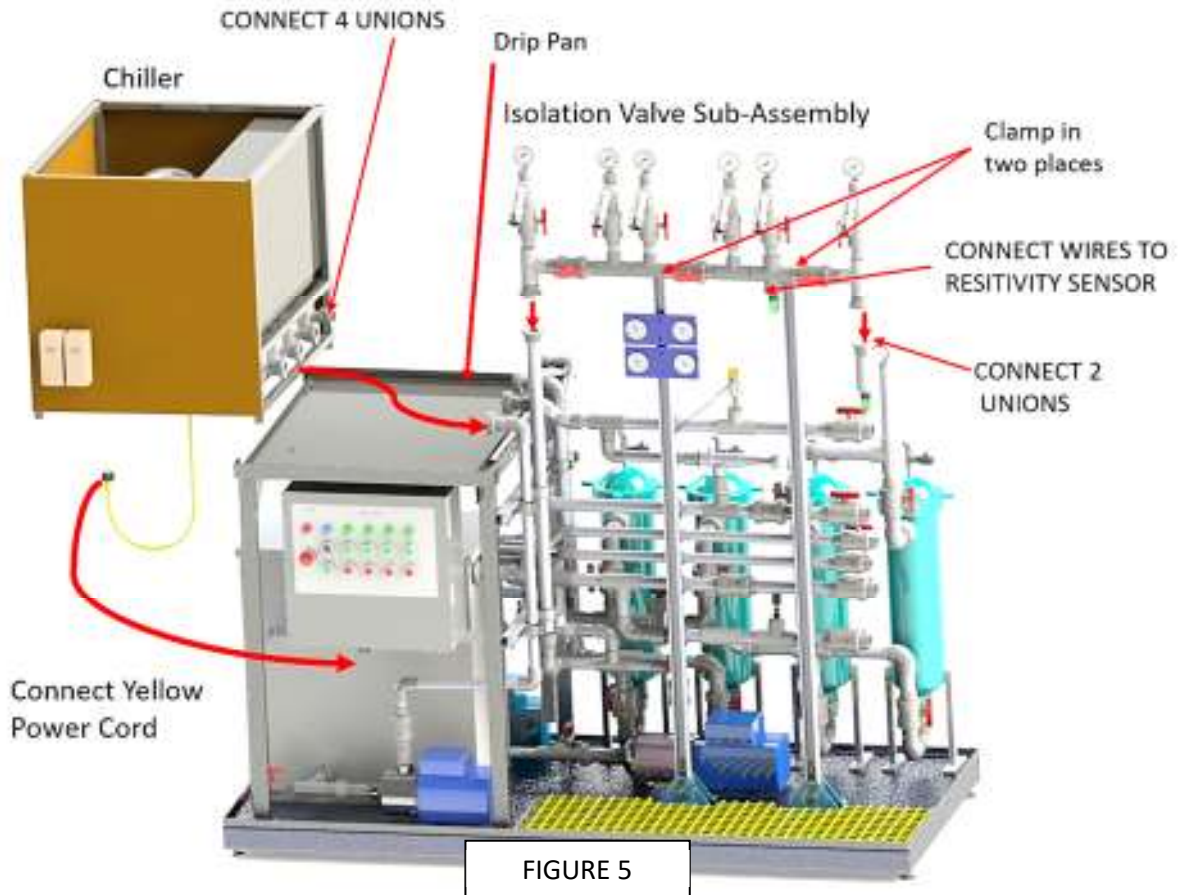

FIGURE 5
The chiller unit is shipped in a separate crate and must be installed after leveling the base unit. The installation requires lifting the chiller unit and placing it on the drip pan such that the four (4) unions line up with the mating parts on the base unit. See Figure 5. Check to make sure that the O-ring for each union is in place. Carefully move the chiller until the all of the union faces are in contact with the corresponding face on the base unit.
Use caution when tightening the union nut to avoid "cross threading". Do not over tighten. Check for leaks during commissioning of the system. See Figure 5
The Isolation Valve Sub-assembly must be mounted and clamped to the two vertical upright and the unions connected properly. See Figure 5.